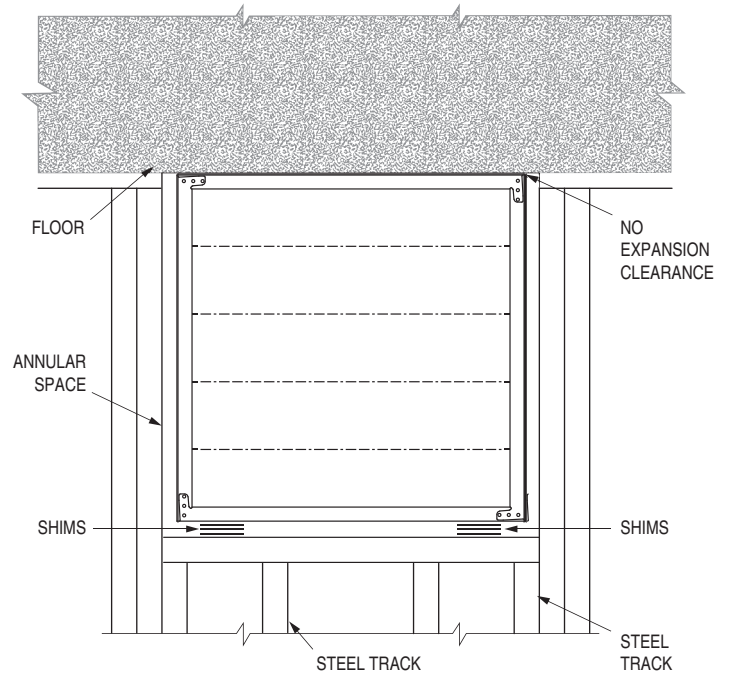

Figure 3: Shims installed underneath damper to push tight up against the above surface.
1. The damper shall be shimmed tight up against the top of the wall opening (Figure 3). Shims must be left installed as shown in figure 3 and 4 and made of steel for multiple section installations.
2. On the top side of the damper sleeve fasteners shall be run up through the sleeve into the steel stud or block wall. For steel stud walls fasteners shall be #10 x 1 1/2" (38) sheet metal screws. For masonry or block walls fasteners shall be 1/4" x 1 1/2" (6 x 38) self-tapping concrete screws.
3. Ensure fasteners are placed in 3" (76) increments from the center of the damper and no more than 2" (51) from the corner.